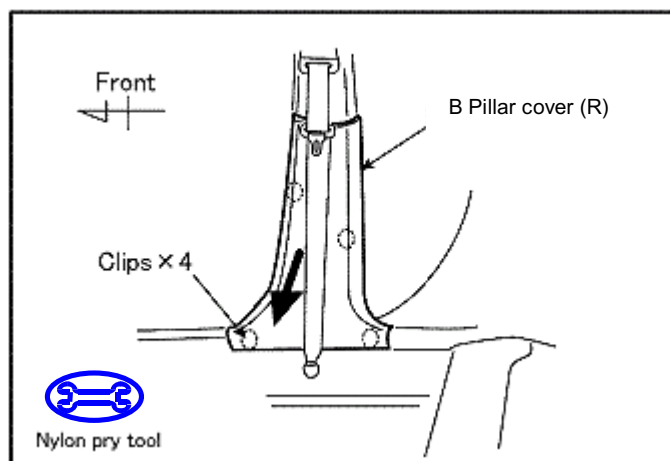
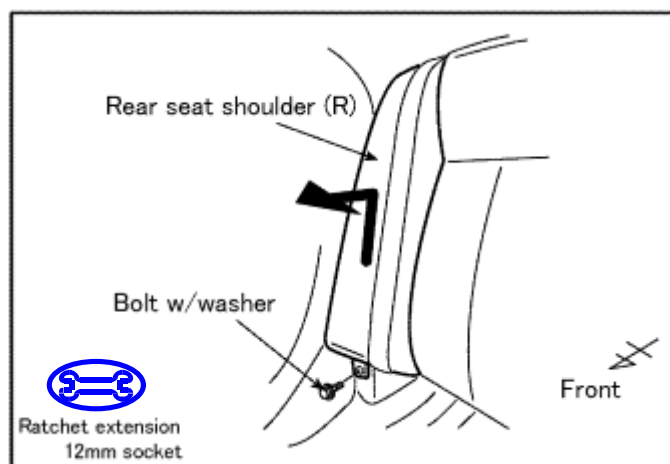

Figure G1
Figure H1
-  1. Use nylon pry tool to disengage clips on B pillar cover. (Figure G1)
2. Remove the B pillar cover. (Figure G1)
H. Remove the Rear Seat Shoulder (R)
-  1. Use 12mm socket and extension to remove bolts located on rear seat shoulder. (Figure H1)
2. Remove the rear seat shoulder (R). (Figure H1)